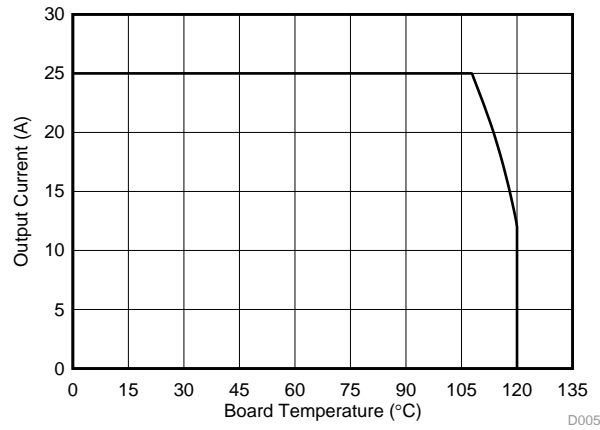

Figure 5. Typical Safe Operating Area⁽¹⁾
The SOA curves in the CSD87335Q3D data sheet provides guidance on the temperature boundaries within an operating system by incorporating the thermal resistance and system power loss. **Figure 5** outline the temperature and airflow conditions required for a given load current. The area under the curve dictates the safe operating area. All the curves are based on measurements made on a PCB design with dimensions of 4" (W) × 3.5" (L) × 0.062" (T) and 6 copper layers of 1 oz. copper thickness.